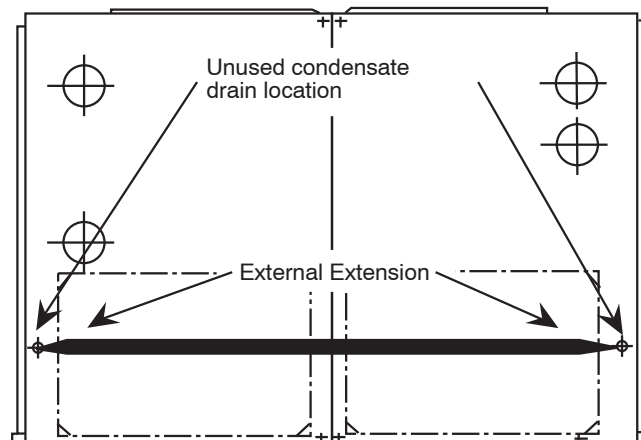

Fig. 32 - External Extension Harness (Back-to-Back Application)
- b. In the Back-to-Back, upflow, downflow and horizontal applications, reference the furnaces from the side of the external extension harness. The LH furnace is the main furnace and the RH furnace is the secondary furnace, as you would see them in the upflow application (See Fig. 32.)